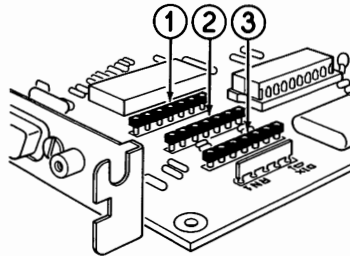

Figure 2-2. Connectors for the jumper block
2. Look at Fig. 2-2, which illustrates three connectors located on a corner of the board near the option slot plate. If you look at your board, you will see that a jumper block is positioned over two of these connectors.